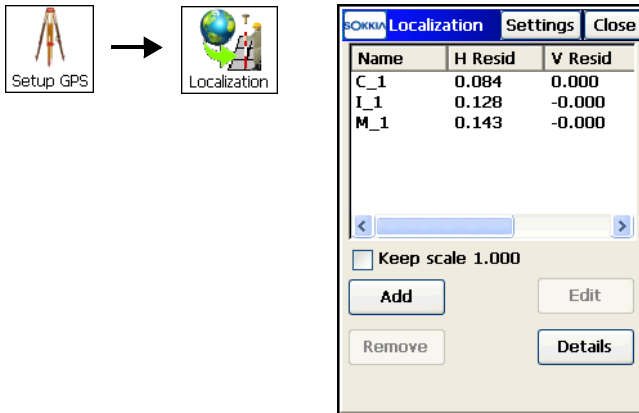
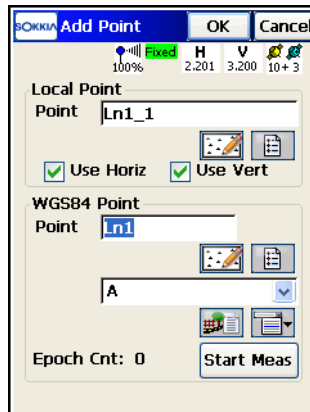

Figure 8-1. Localization Screen
Figure 8-2. Add Localization Points
1. Tap **Setup GPS ▶ Localization**. The **Localization** screen displays (Figure 8-1 on page 8-3).
2. On the **Localization** screen, tap **Add** (Figure 8-1). The **Add Point** screen displays (Figure 8-2 on page 8-3),
3. On the **Add Point** screen, set the following parameters, then tap **OK** (Figure 8-2):
5. To view the parameters of the localization, tap the **Details** button on the *Localization* screen (Figure 8-1 on page 8-3).